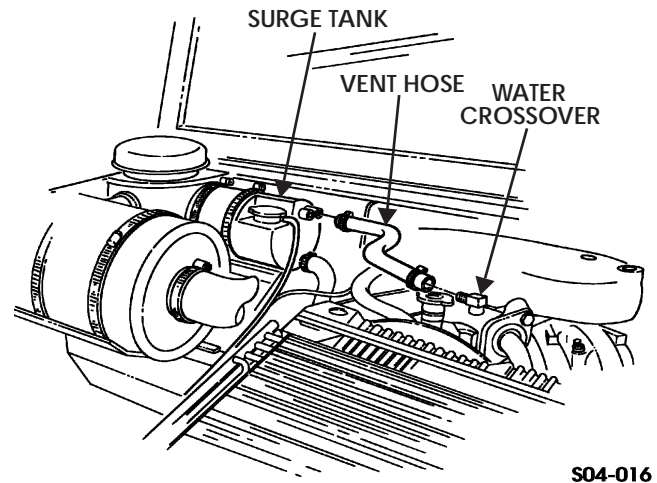

Figure 4-18: Surge Tank-to-Water Crossover Vent Hose
2. Remove vent hose from water crossover and surge tank (Figure 4-18).
1. Install vent hose on surge tank and water crossover (Figure 4-18).